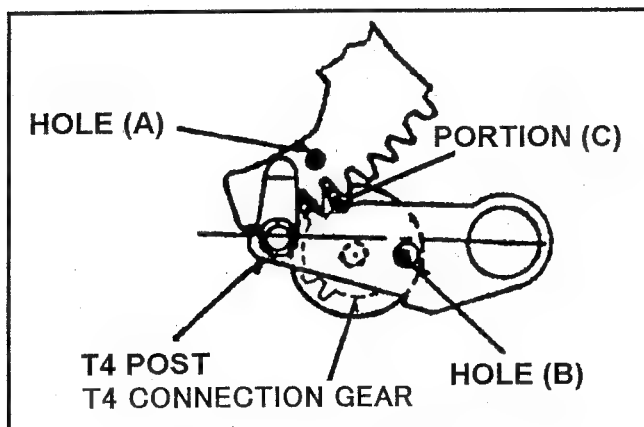

Fig. 6-23-1 Phase of T4 Post
1. Confirm that the hole (B) of T4 connection Gear is matched with the hole of T4 post as shown in Fig. 6-23-1.
2. Confirm that the portion (C) of T4 connection Gear and the hole (A) are located as shown in Fig. 6-23-1.